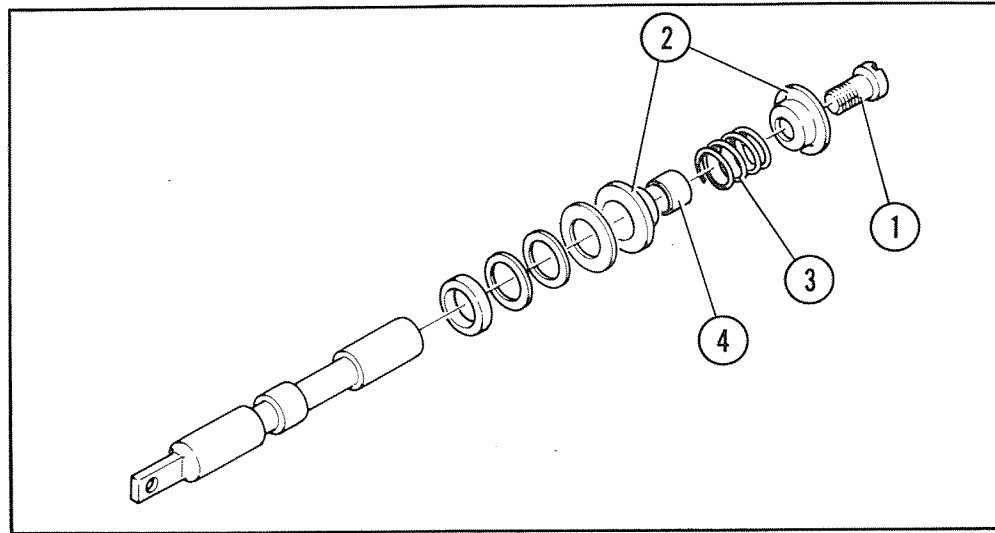

**Figure 10**
5. Pull out the spool (4) in the direction that the plug was removed, Figure 10.
6. Remove the washer (1), back-up ring (2), and seal ring (3), Figure 10.